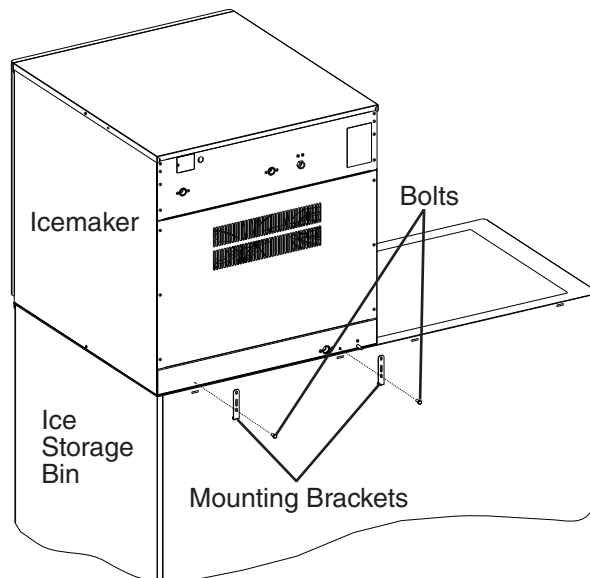

Fig. 2
- 6) Follow the ice storage bin, adapter kit, or top kit instructions for securing the icemaker. If no instructions are available, secure the icemaker using the 2 mounting brackets and the bolts provided. See Fig. 2.